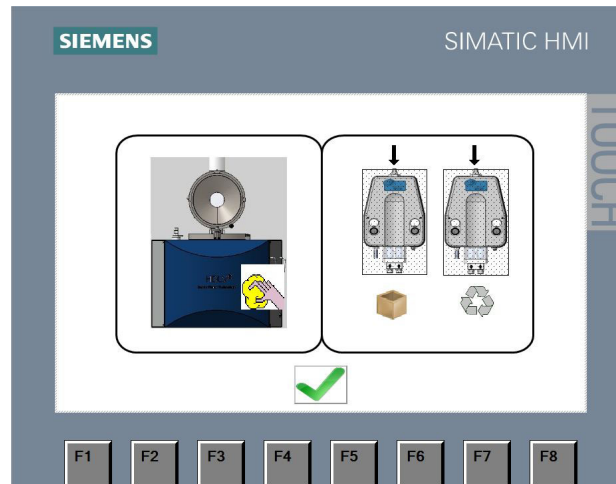

Figure 4-6 Manual Cleaning and Pump Cleaning Screen
- The screen in Figure 4-6 directs the operator to connect the hoses to the extract position and bring the exhaust pipe of the hopper into the cleaning position by turning it 180°.
8. Figure 4-6 directs the operator to manually clean the feed center.